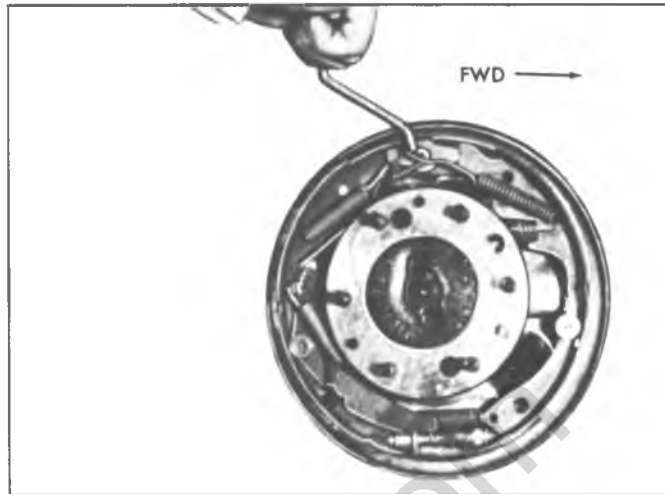

Fig. 49--Installing Pull Back Spring
13. Hook springs in shoes using Tool J-8049 by installing the primary spring from the shoe over the anchor pin and then the spring from the secondary shoe over the wire link end (fig. 49).